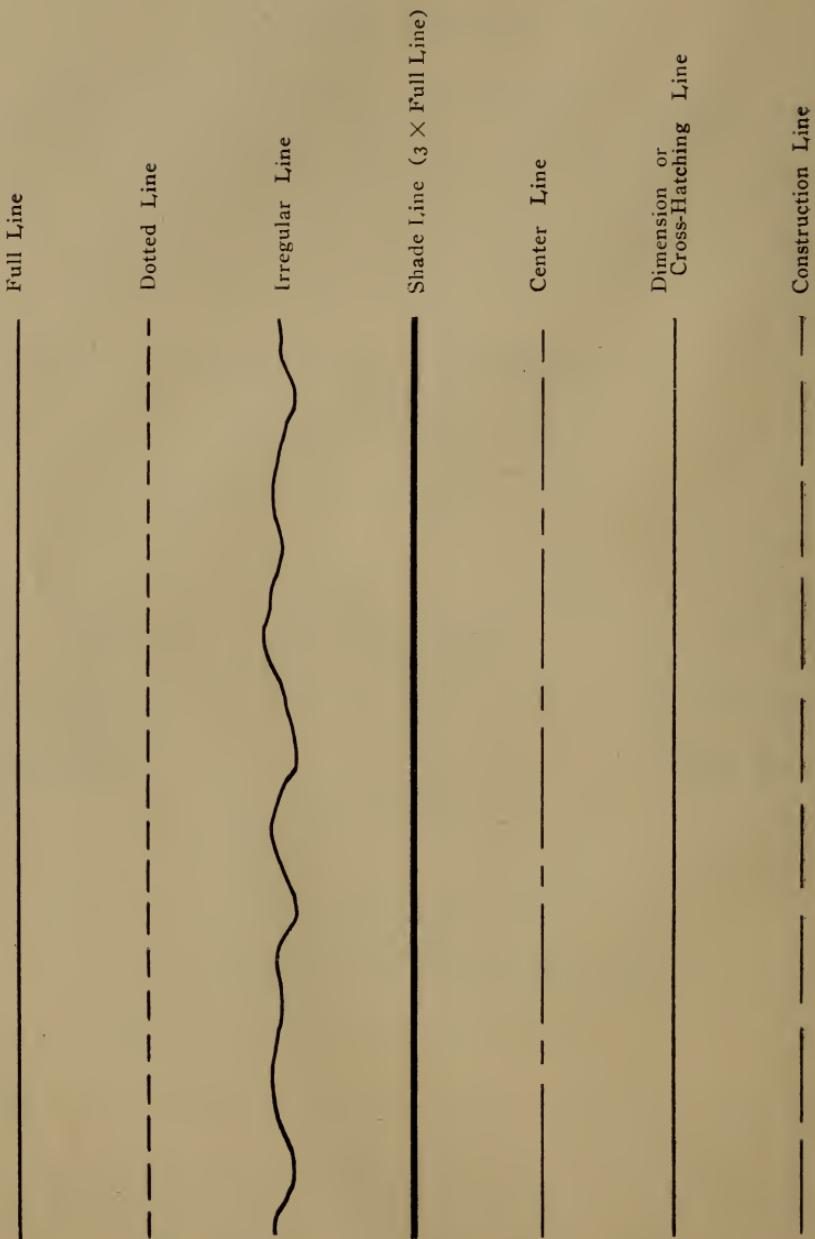

Fig. 16. Sample Lines Showing Exact Weight to be Used on Drawings.
4. **LINES.** Each of the different kinds of lines (Fig. 16) used in a drawing has a definite meaning and use. All lines showing any part of the object, whether full, dotted or irregular lines, are of the same weight or thickness, except shade lines, which are three times as heavy; all other lines are lighter.
5. INKING IN. A drawing should not be inked in until it is complete in pencil. The ink lines should be of the thickness shown in Fig. 16.
1. SHADE LINES. It is often desirable to make more clear the shape of an object by indicating the raised or depressed surfaces by means of shade lines and thus overcoming the flatness of a drawing. Shade lines are three times the thickness of full lines, see Fig. 16.